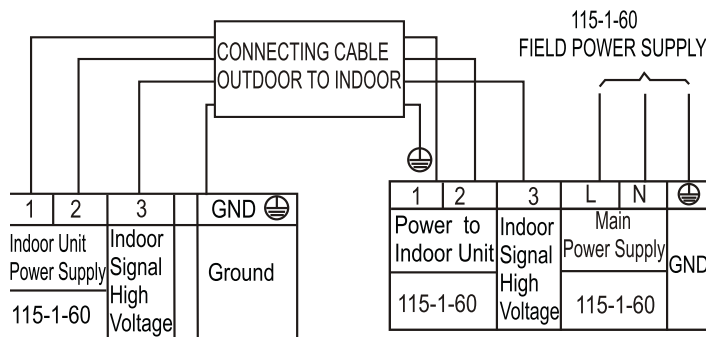

Fig. 3 —9k - 12K (115V Heat Pump and Cooling Only)
2. All connections between the indoor and outdoor units must be made as shown in Figures 3, 4. The connections are sensitive to polarity and will result in a fault code.